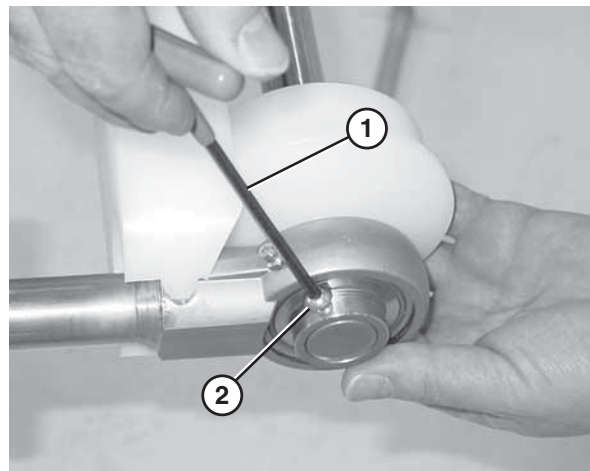

Figure 76
- Use a hex wrench (Figure 76, item 1) to loosen the bearing shaft assembly fasteners (Figure 76, item 2).